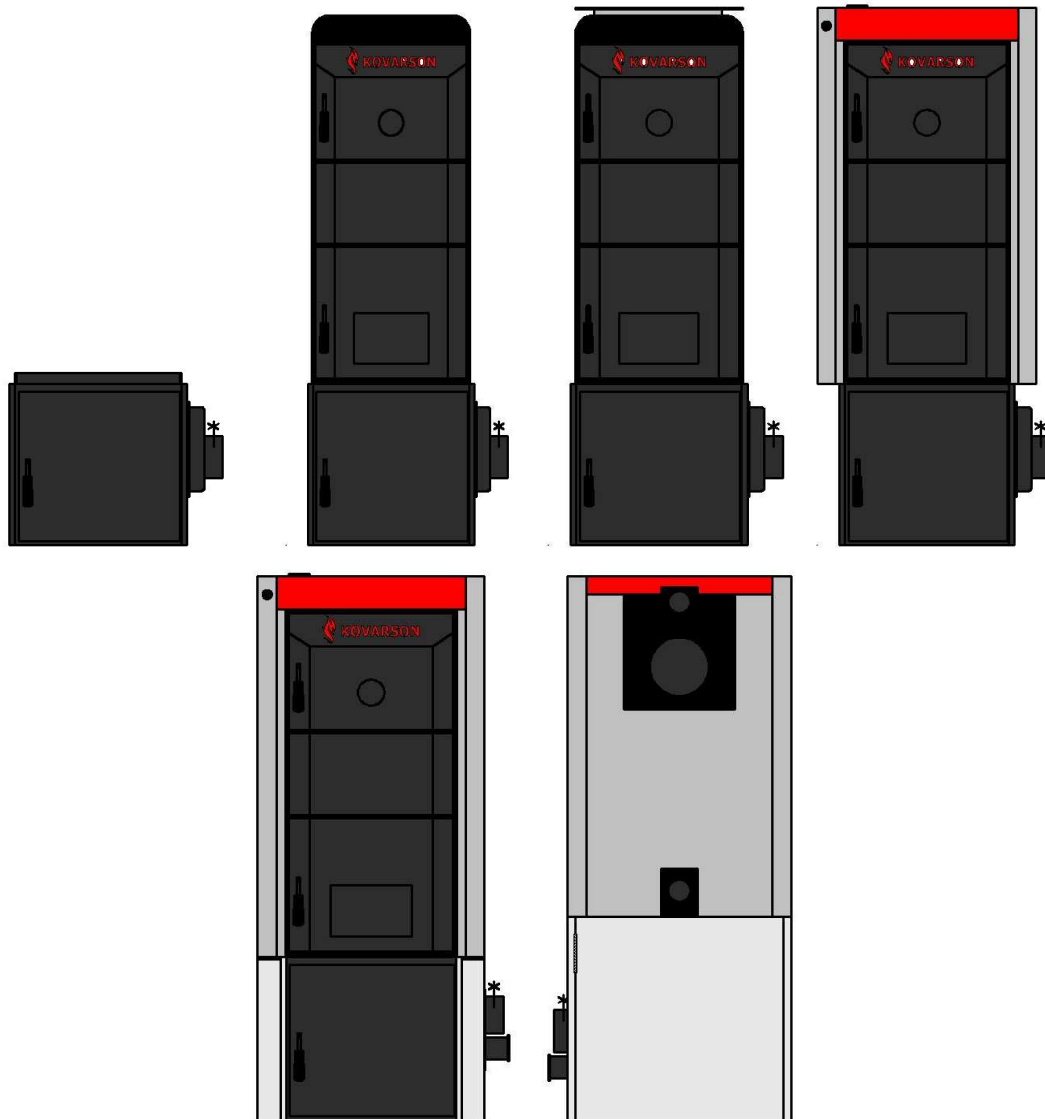

Figure 6 Boiler body casing
2. Fit the sheet metal components with the appropriate fasteners (see Figure 6 - 10 bolts - ST 4.8 x 13).
3. Assemble the boiler casing (see Figure 6)